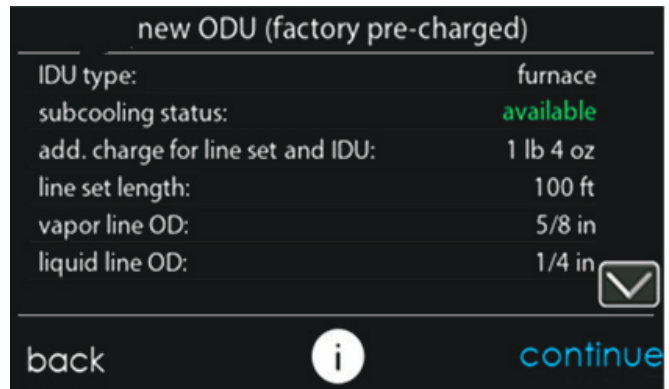
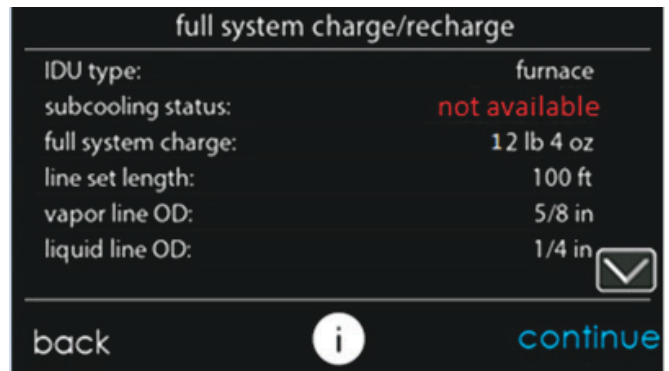

Fig. 15 – New ODU (factory pre-charged) - Subcooling Available
Fig. 16 – Full System Charge/Recharge - Subcooling Unavailable
- If indoor and outdoor conditions are in range, subcooling status will be green and available (Fig. 15). If conditions are outside the range, subcooling status will be red and unavailable and will require a partial weigh-in of charge (Fig. 16). Both "new ODU (factory pre-charged)" and "full system charge/recharge" modes will allow the user to move forward to start the system regardless of whether subcooling charging is available. Lineset configuration and climate zone / odu material type can be changed by selecting appropriate line if needed. For "new ODU (factory pre-charged)" record the ADDITIONAL charge amount listed. For "full system charge/recharge", record the FULL system charge amount listed. Press continue.